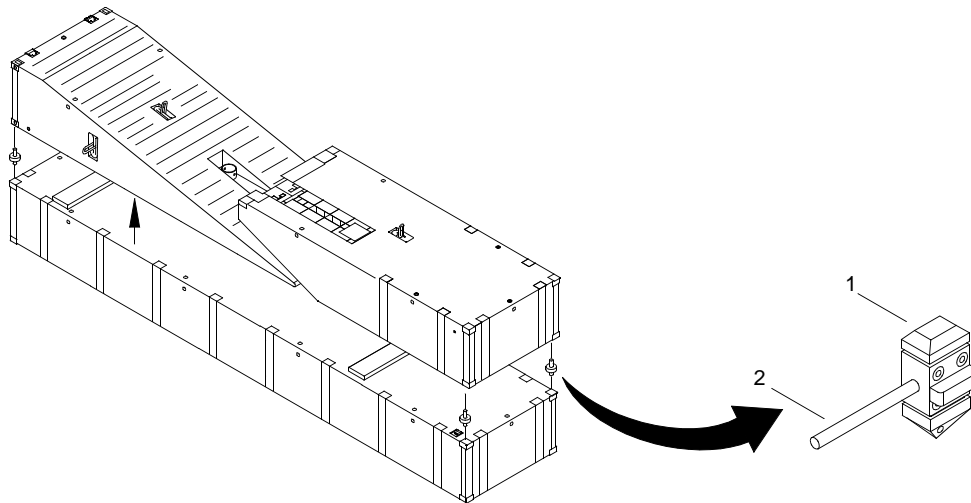

Figure 3. Combination Beach/Sea End Module Vertical Twistlocks
1. Unlock four vertical twistlocks (figure 3, item 1) by rotating levers (figure 3, item 2).